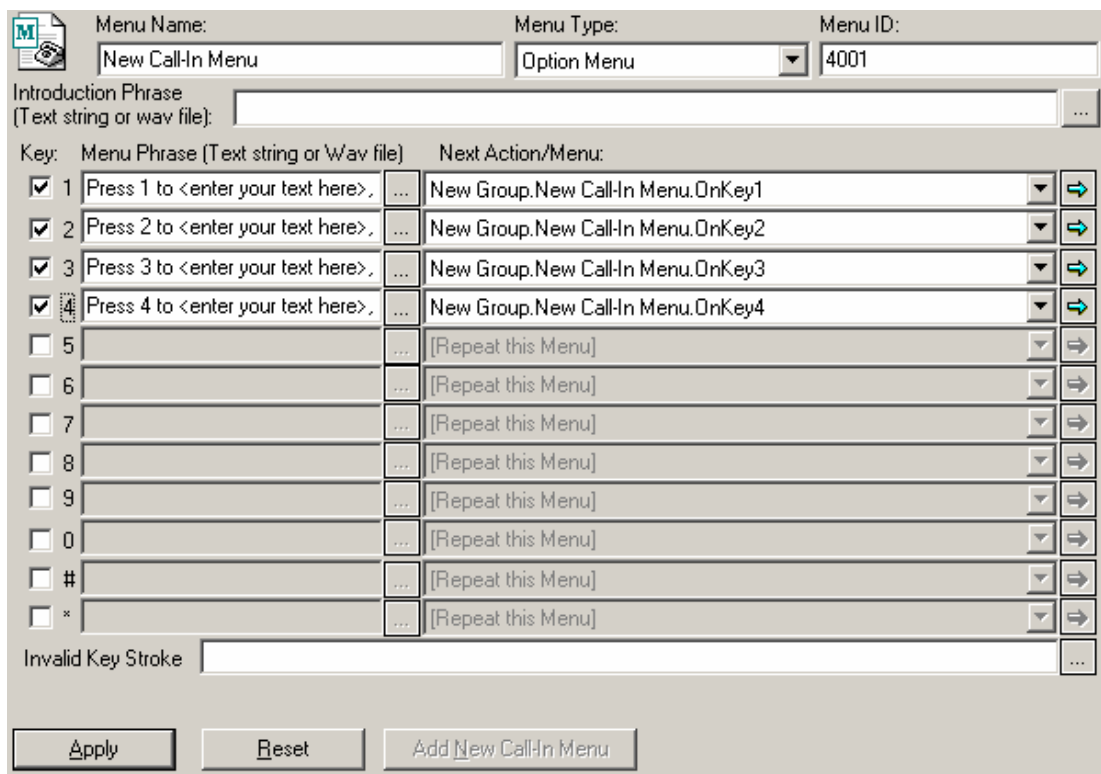

Figure 9.12. Setting the Properties for the New Call-in Menu
2. The properties dialog box for the new menu appears in the right-hand pane of the Configurator, as shown in **Figure 9.12**.